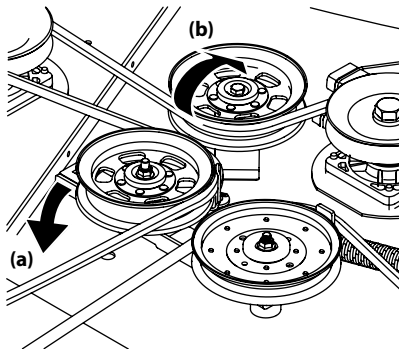

Figure 4-17
- Working from the middle of the tractor, pivot the idler bracket and movable idler pulley rearward away from the backside of the 'V' belt (a) just far enough to lift the belt up and over the idler pulley (b). See Figure 4-17.